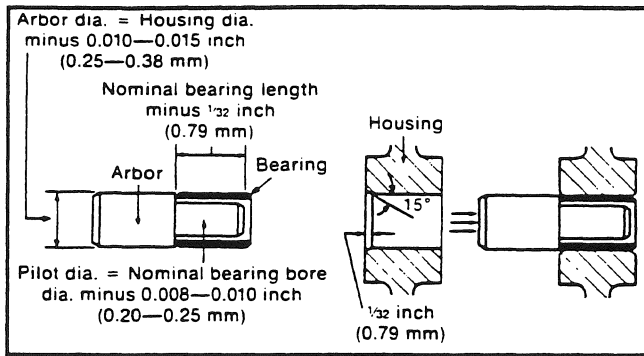

Fig. 98
1. You should install the inner and outer bushings using a stepped mandrel, preferably made from case-hardened mild steel. To make an appropriate stepped mandrel, refer to the following chart and Fig. 98.